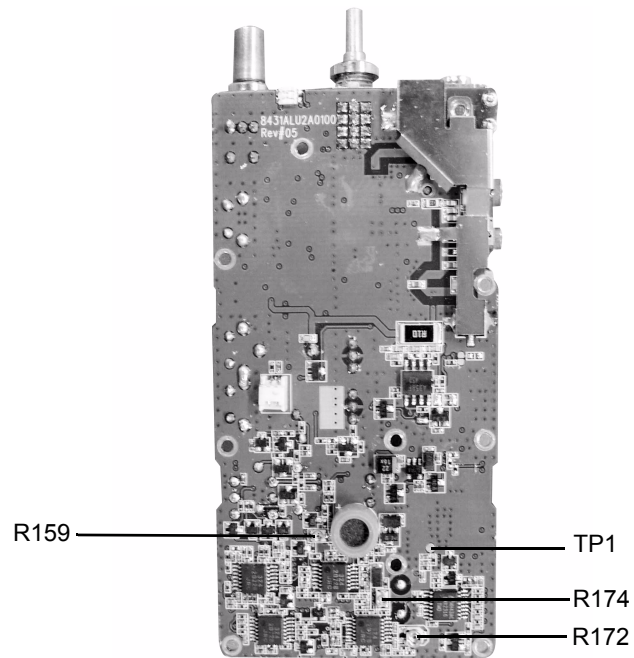
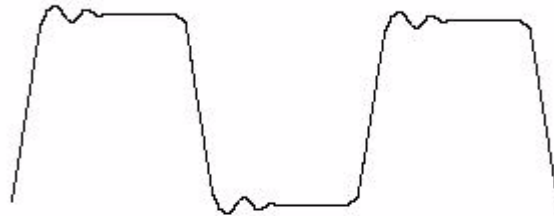

Figure 3-3 Top Side of PCB
Figure 3-4
5. Using the ceramic tool, adjust R174 (refer to Figure 3-3) to modulation balance as per Figure 3-4.
5. Using the ceramic tool, adjust R159 to tune maximum modulation between $2.4 \pm 0.02\text{kHz}$ for narrow band or under 5kHz for wide band (refer to Figure 3-3).
2. Detect output voltage at test point TP1 (refer to Figure 3-3).